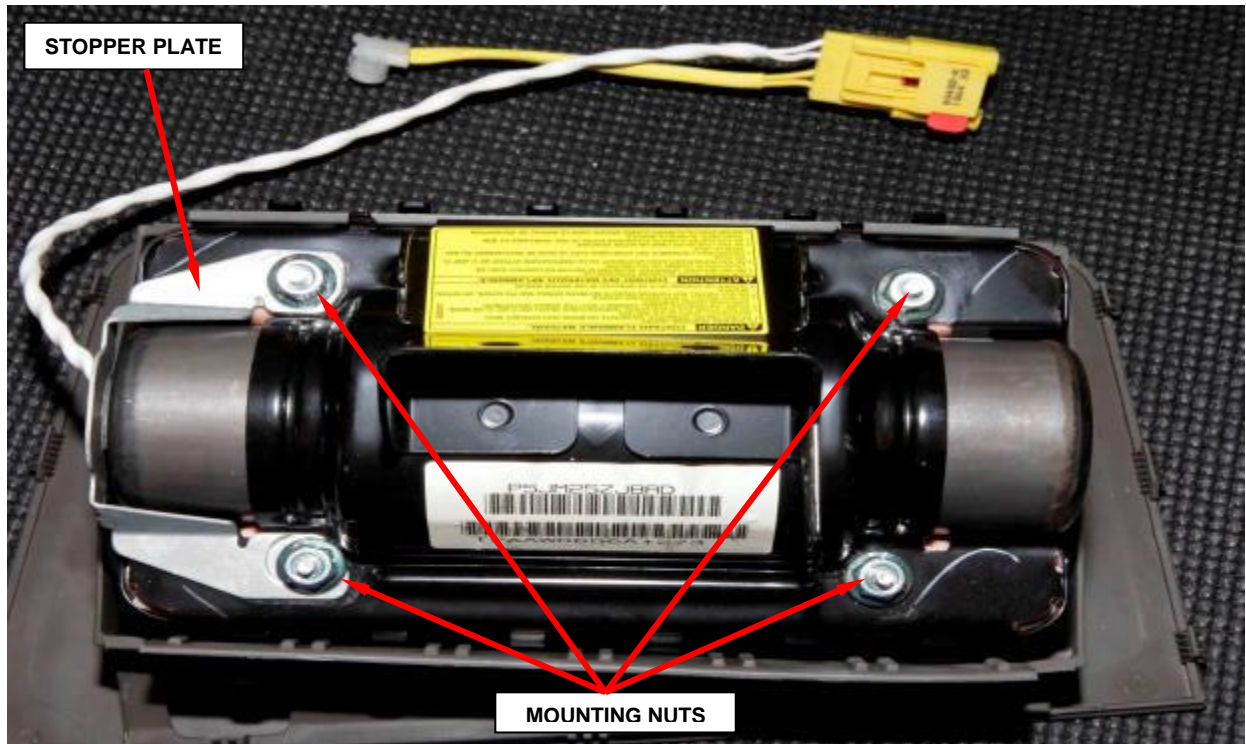

Figure 82 – Mounting Nuts and Stopper Plate
e. Remove and discard the four mounting nuts and stopper plate from the passenger airbag module (Figure 82).